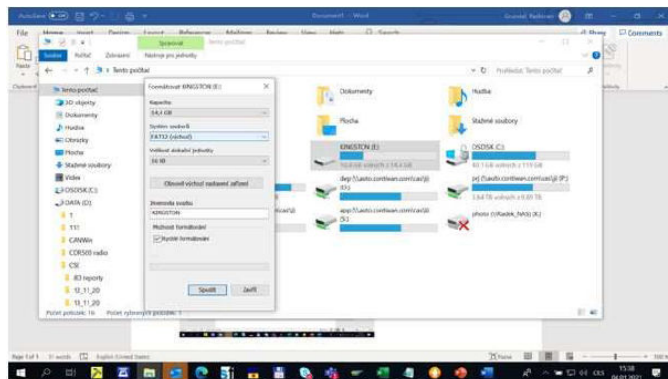

Fig. 3
- 5. To download the software files to a USB flash drive, follow the onscreen instructions and perform the following Fig. 3: